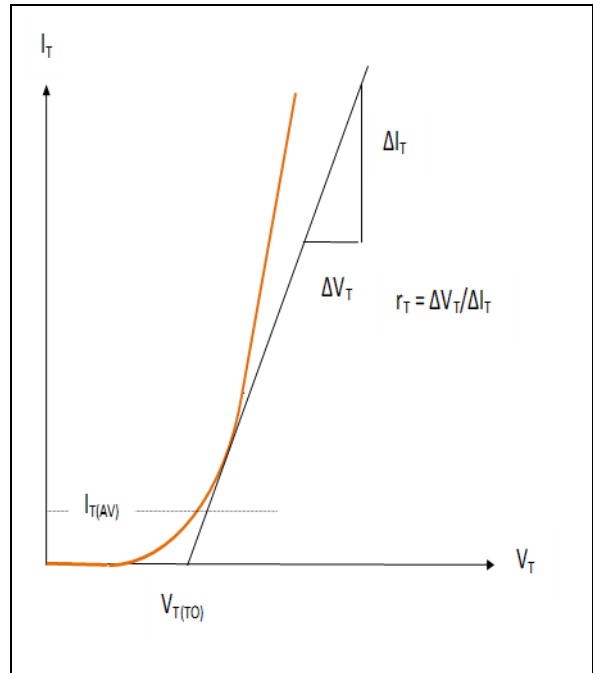

Fig. 20 Variation of tangent method
4. As fig 20. A tangential point constructed such that the value of $I_{T(AV)}$ calculated from $I_{T(AV)} = (-V_{T(TO)} \pm \sqrt{(V_{T(TO)}^2 + 4 \cdot k^2 \cdot r_T \cdot P)}) / (2 \cdot k^2 \cdot r_T)$ is the same as that calculated by more exacting methods. This method is a variation of method 1. It has been used to retrospectively calculate meaningful values of $V_{T(TO)}$ and r_T where more accurate current rating data already exists.